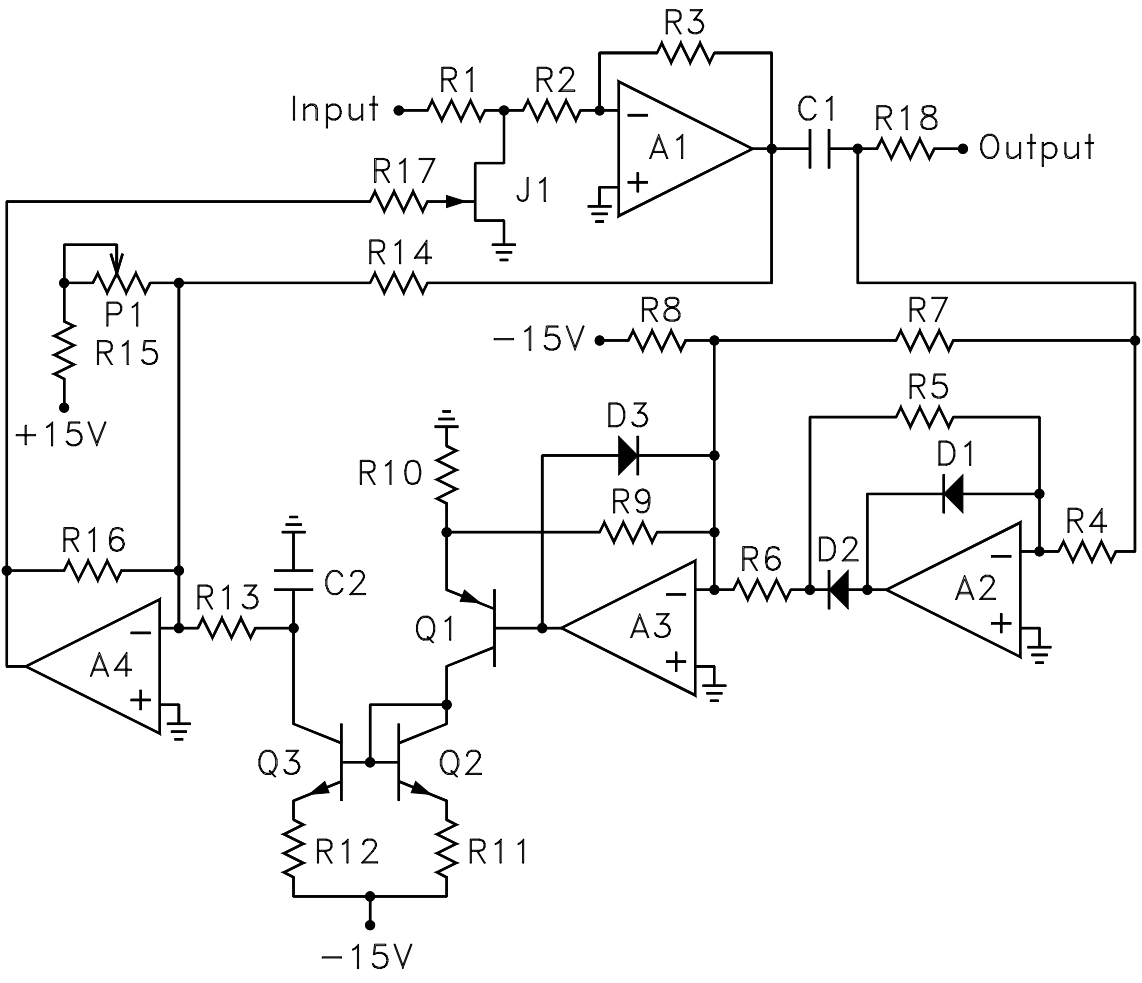

Figure 1: Basic circuit diagram of the compressor/limiter.
This circuit uses a p-channel JFET. Your design project is to realize this circuit using an n-channel JFET. The circuit is shown in Figure 1. This circuit differs from that in the reference paper in that the JFET is an n-channel device, the diodes are reversed, and the polarity of two power supply voltages is reversed.
1. The first part of this lab is to realize the detector part of the circuit in Figure 1 consisting of op amps A_2 and A_3 . The circuit is not to be connected to the VCA until it is operational. The first step is to assemble the precision rectifier circuit consisting of A_2 , A_3 , D_1 , D_2 , and resistors R_4 , R_5 , R_6 , R_7 , and R_9 . Omit D_3 , R_8 , and all of the circuits to the left of A_3 . For this part, the left node of resistor R_9 should connect to the output of A_3 . The specifications are:
- Connect the output of A_3 to the base of Q_1 and reconnect D_3 and R_9 as shown Figure 1.